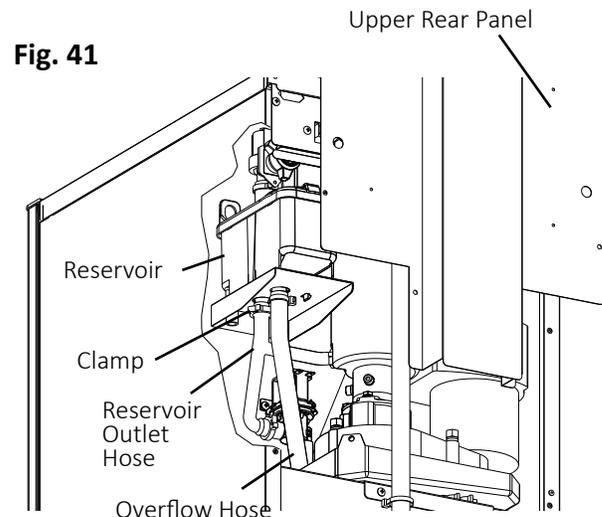

Fig. 41
11. Remove the screws securing the upper rear panel, then remove it (See Fig. 41).